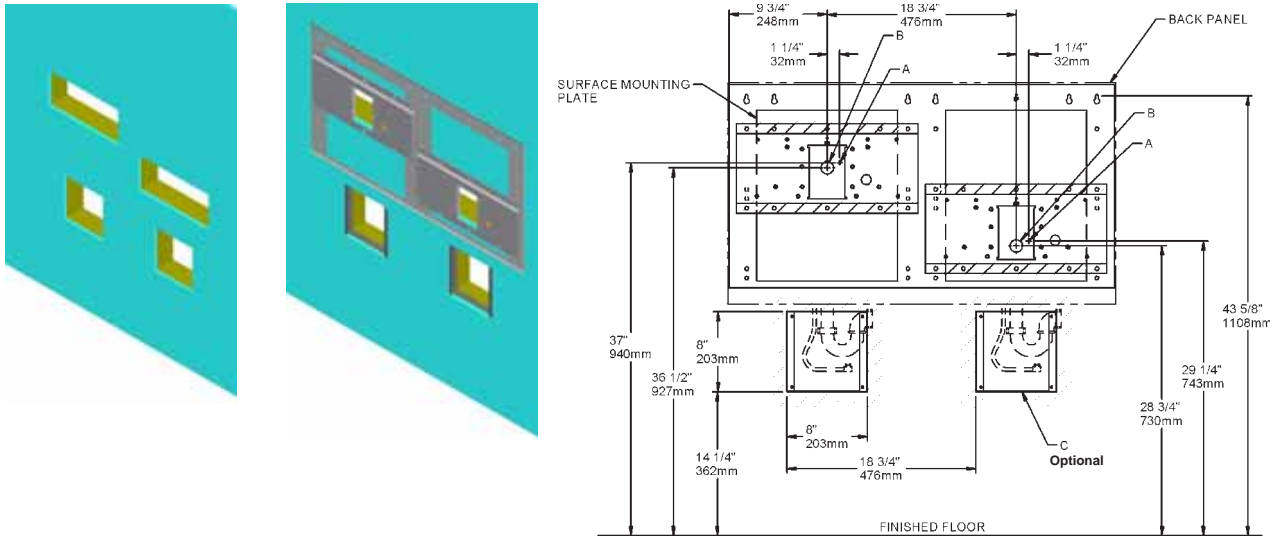
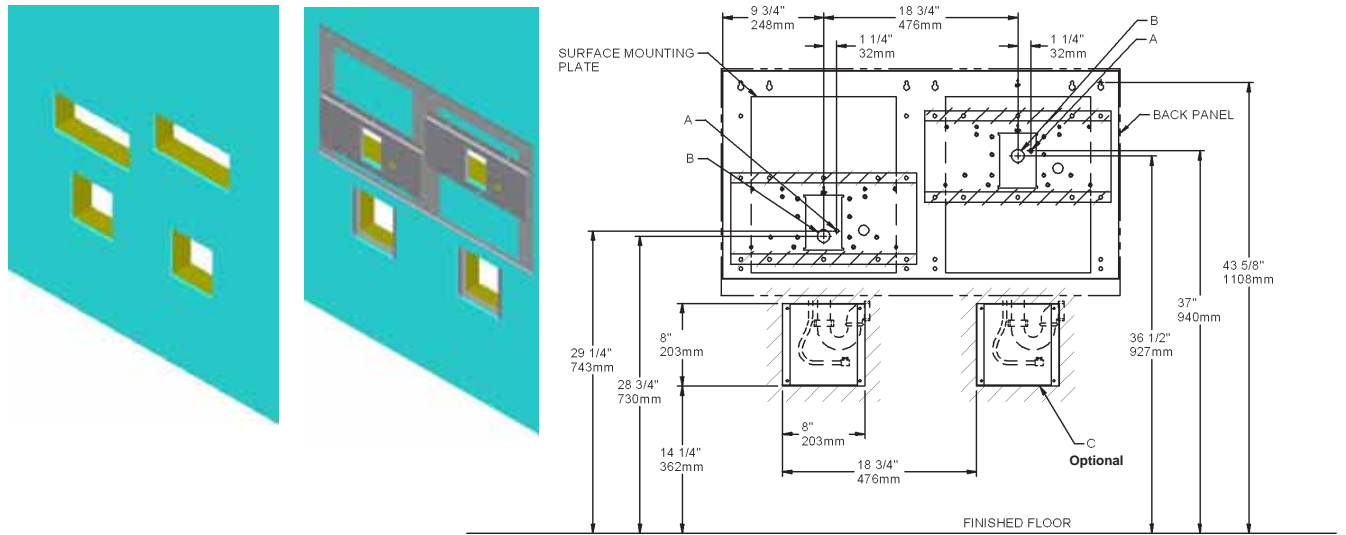

Figure 1 - Rough-in EDFPB(V)117C
Figure 3 -Rough-in EDFPBM(V)117RAC
1. **Wall** should already be framed for the fountain using the positioning dimensions shown in Figure 1 or Figure 3. Shown dimensions pertain to installation location (framing must support up to 300 lbs. weight). These dimensions are required for compliance with ANSI Standard A117.0.
2. **Install** rough-in plumbing as shown in Figure 1 or Figure 3. Run supply water inlet line through the back panel. Install a service stop (not provided). Turn on supply water and flush thoroughly.